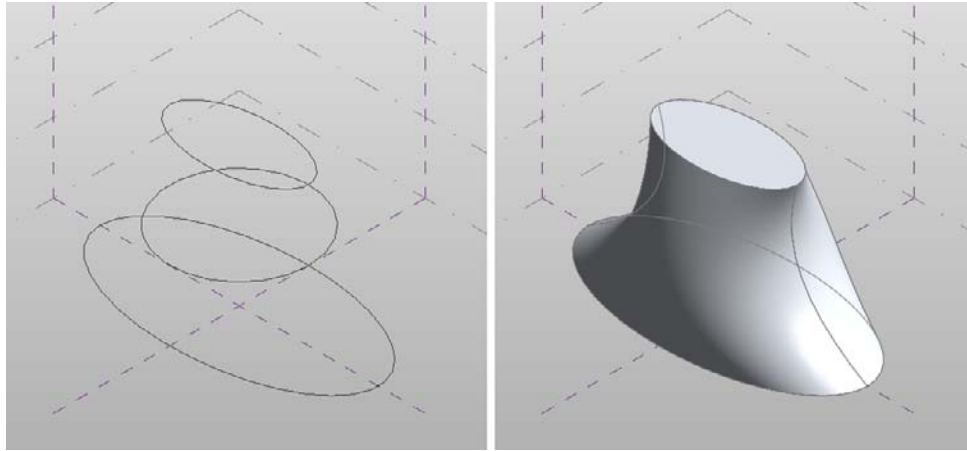

Figure 7.75
6. After creating the three cross section shapes, open the default 3D view (Figure 7.75). You will see the two new levels and the three shapes created in the previous steps. Select the three shapes, and then choose Create Form from the Form panel.